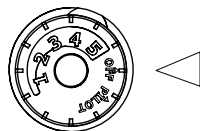
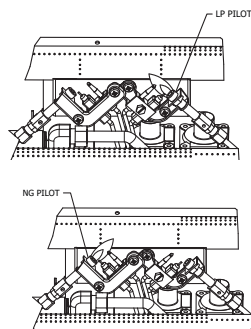

Fig. 15 - Control Knob
Fig. 16 - Pilot
3. Turn control knob clockwise  to the "OFF" position (See Fig. 15).
4. Wait five (5) minutes to clear out any gas. Then smell for gas, including near the floor. If you smell gas, STOP! Follow "B" in the safety information above. If you don't smell gas, go to the next step.
5. Turn control knob counterclockwise  to the "PILOT" position. (See Fig. 16). Depress control knob.
7. Keep control knob depressed for (30) seconds after pilot lights. Release the control knob.
- If pilot goes out repeat steps 3 through 7. Wait (1) minute before attempting to light pilot again. If after several tries the pilot still goes out, turn the gas control knob clockwise  to the "OFF" position and call a qualified service technician.